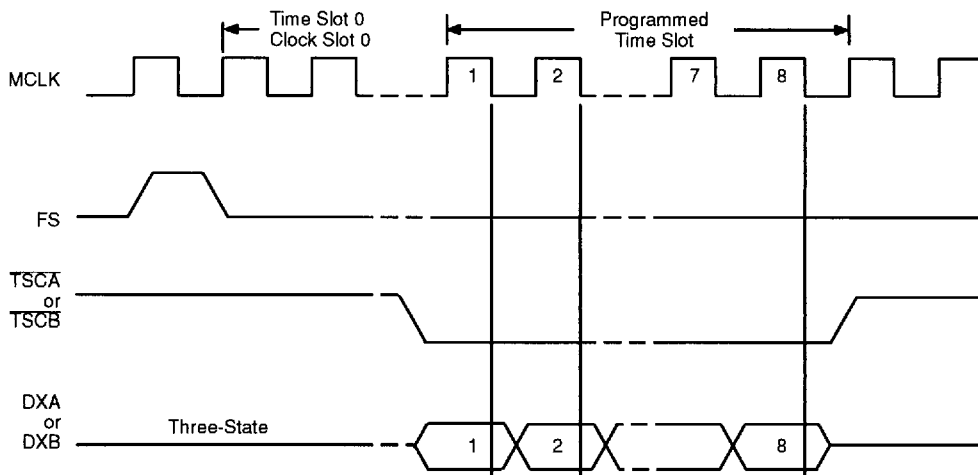

Figure 5. Transmit PCM Timing Diagram
The Frame Sync (FS) pulse identifies the beginning of a Transmit frame and all channels (time slots) are referenced to it. The logic contains user-programmable Transmit Time Slot and Transmit Clock Slot registers. The Time Slot register is normally 5 bits wide and allows up to thirty-two 8-bit channels (using $MCLK = 2.048$ MHz) in each frame. But in the expanded mode, 6 bits may be programmed to give sixty-four 8-bit channels (using $MCLK = 4.096$ MHz) in each frame. The expanded mode bit becomes the sixth bit of the Time Slot register. If this bit is Low, one of channels 0 to 31 is selected and if it is High, one of channels 32 to 64 is selected. This only applies if $MCLK$ is 4.096 MHz. This feature allows clock frequencies of 2.048 or 4.096 MHz in a system. For μ -law and A-law operation, 8 bits/channel are output. The data is transmitted Most Significant Bit (MSB) first. The Clock Slot register is 3 bits wide and may be programmed to offset the Time Slot assignment by 0 to 7 $MCLK$ periods to eliminate any clock skew in the system (see Figure 5).